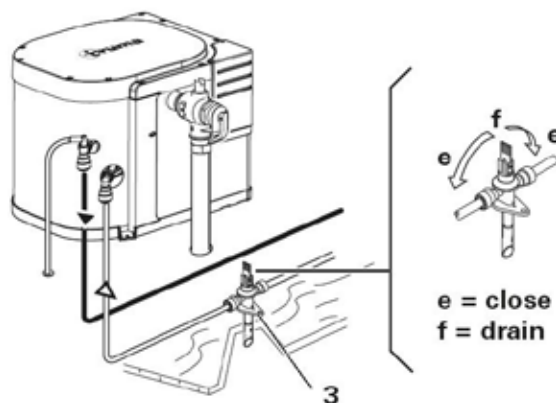

Fig. 2
- Close drain valve (Fig. 2 - 3). Lever in the “e” position (close).
- Open drain valve (Fig.2 - 3). Lever in the "f" position (drain). The water heater is now drained directly to the outside via the drain valve (3).
- The drain valve (Fig. 2 - 3) and the P&T safety valve (Fig. 2 - 4) are to be operated regularly to remove lime deposits and to ensure that they are not blocked. Frequency: every 6 month.